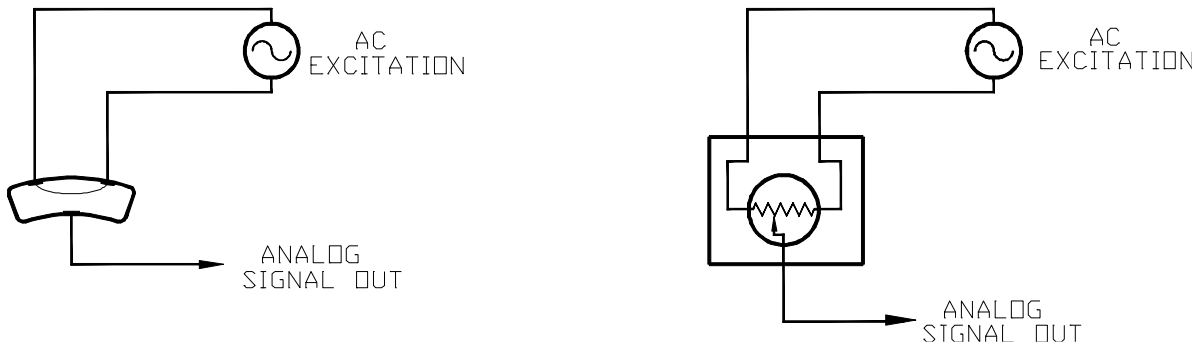
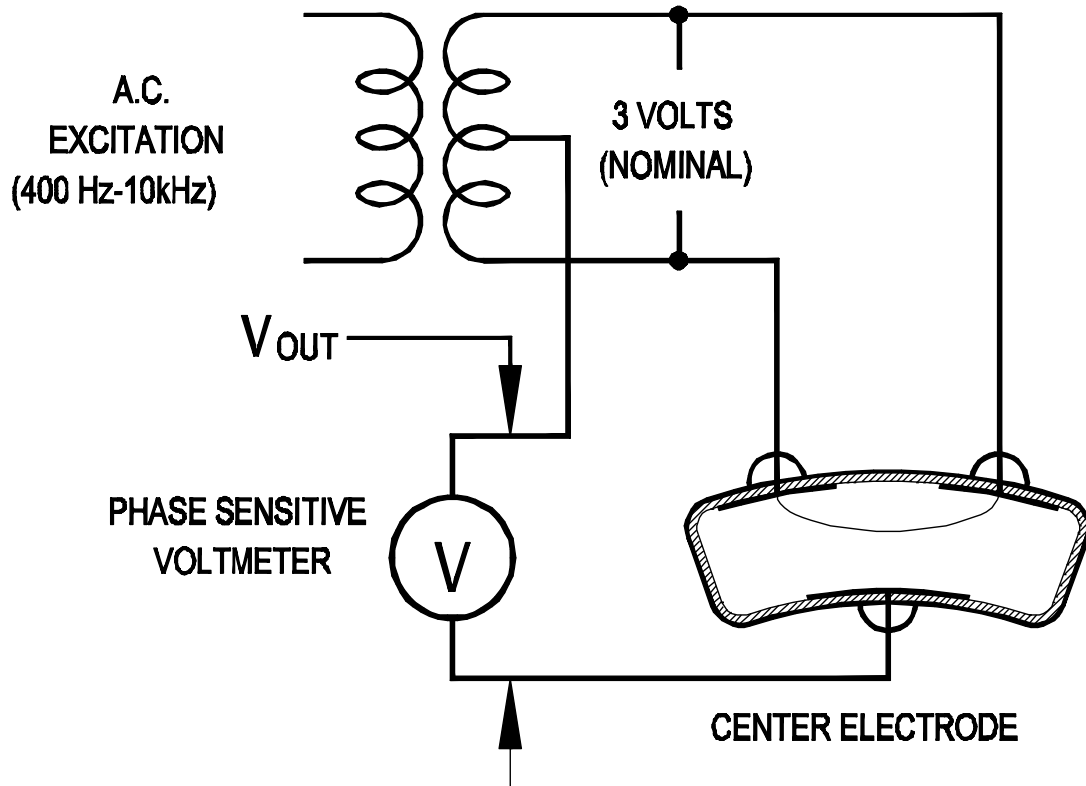

FIGURE 5
FIGURE 6
| Figure 5: Electrolevel Electrical Characteristics | 11 |
| Figure 6: Basic Signal Conditioning: One Electrolytic Sensor | 12 |
Figure 5 shows a basic electrical circuit for operating one electrolytic tilt transducer. Figure 6 shows a basic circuit for operating two transducers simultaneously, as in the case of a biaxial sensor. Please note that these basic circuits may not achieve the performance specifications listed in Section 4.0 of this manual. Nor are they likely to provide the ease of use available from the signal conditioning units listed above.
In this nomenclature the (+) and (-) wires correspond to the two top, or excitation, electrodes of the tilt transducer, as shown in Figures 5, 6, 7, and 8 of this manual. The (+) electrode is on the +X or +Y side of the transducer. The (E) wire corresponds to the center, or pick-up, electrode of the transducer.